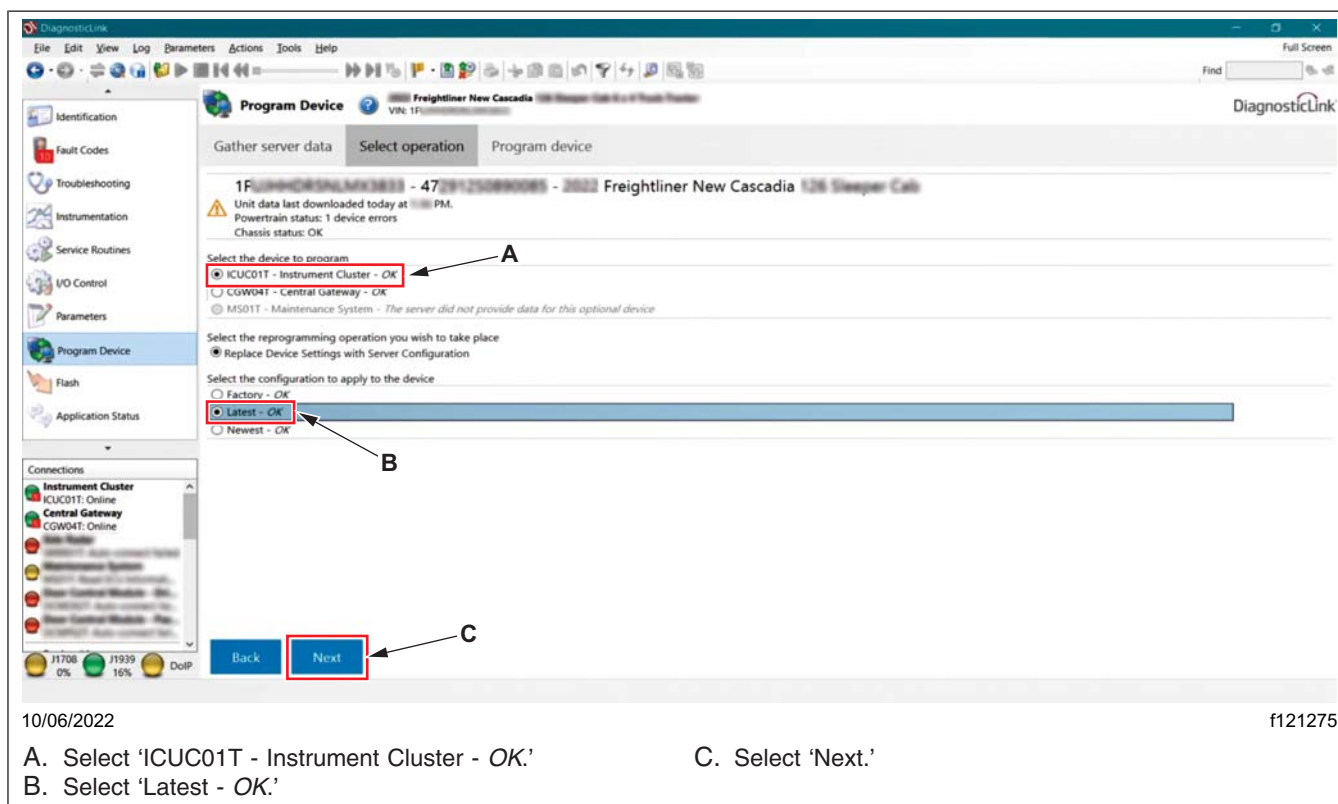

Fig. 19, Selecting the Device Configuration
24.1 Select 'ICUC01T - Instrument Cluster - OK' as the device to program. See Fig. 19.
24.2 Select 'Latest - OK' as the configuration to apply to the device. See Fig. 19.
24.3 Select 'Next.' See Fig. 19.